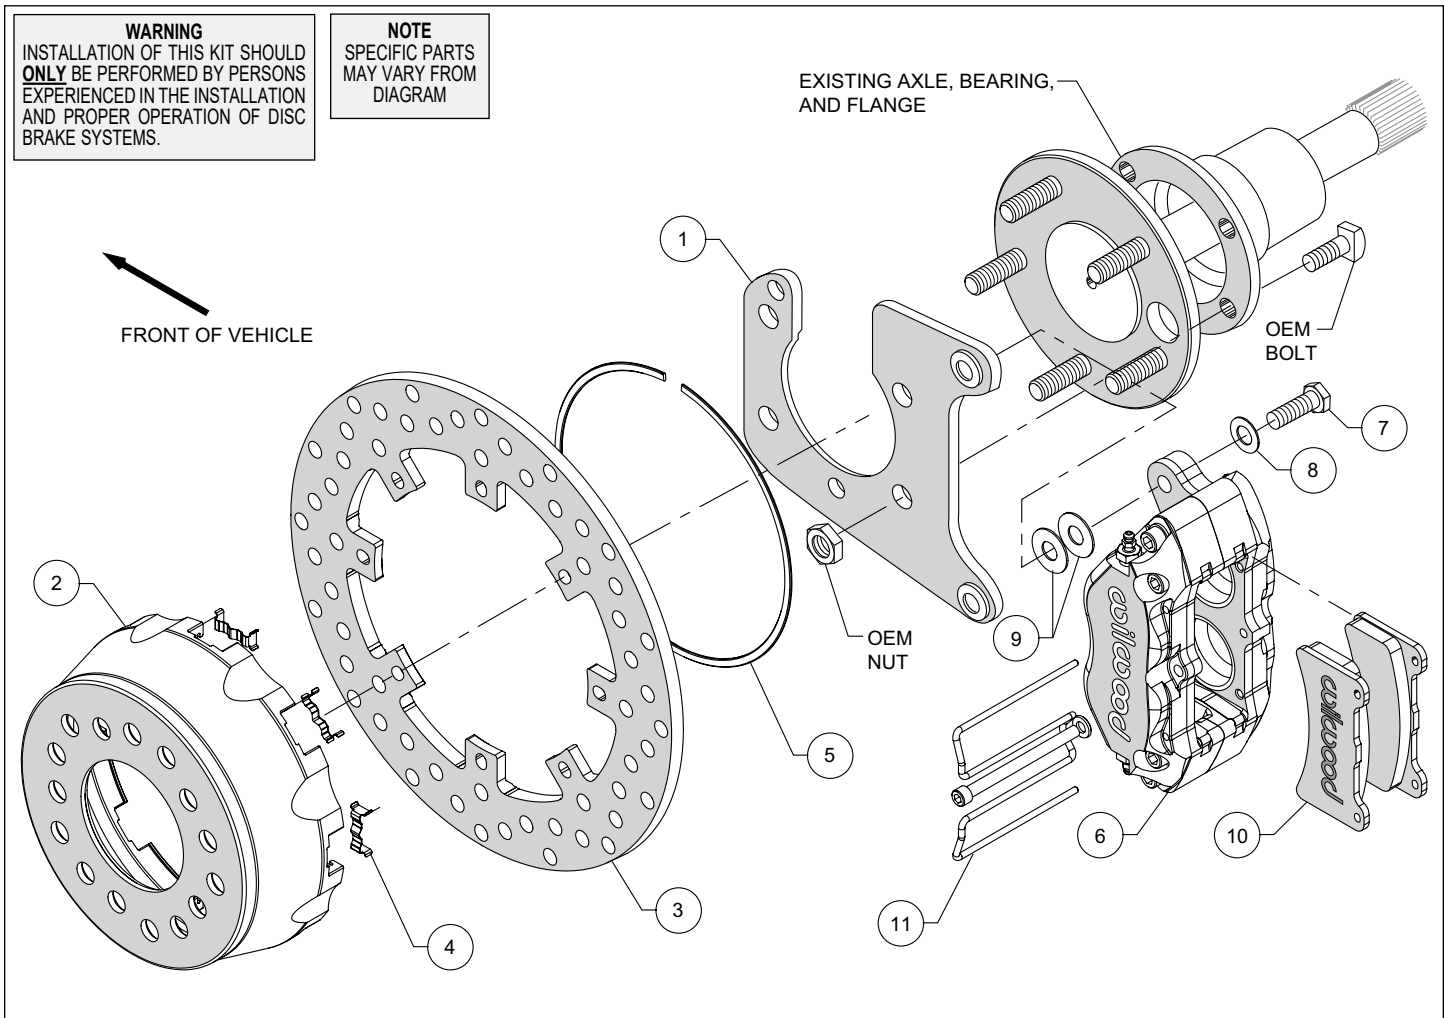
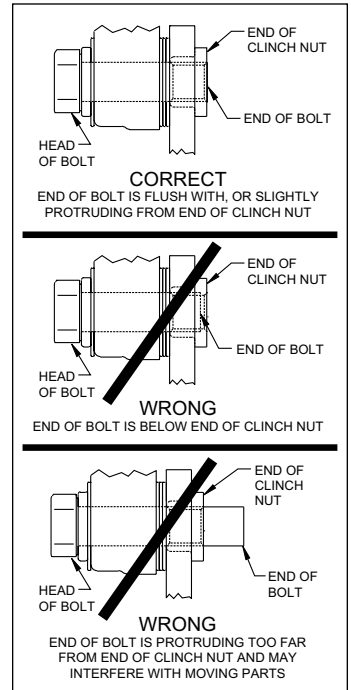
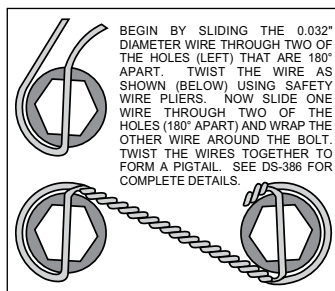

Figure 1. Typical Installation Configuration
Figure 4. Clinch Nut Engagement Diagram
Figure 5. Safety Wire Diagram
Assembly Instructions (numbers in parenthesis refer to the parts list and Figure 1 on the preceding pages): **CAUTION:** All mounting bolts must fully engage clinch nuts. Be sure to check that all bolts are either flush or protruding through flanged side of clinch nut after shimming, Figure 5.
- Install the caliper mounting bracket (1), with the slot for the axle pointing upward, to the housing flange using the OEM bolts and nuts, as shown in Figure 1 and Photo 1. Ensure that the heads of the clinch nuts are facing outboard, Photo 1. Apply red *Loctite*® 271 to the OEM bolt threads and torque to OEM specifications.
- Insert the dynamic mount wear clips (4) into the slots in the hat (2) making sure the tabs snap in place, Photo 2. Orient the rotor (3) as shown in Figure 1 and Photo 3, with the flush mount tab side facing the hat. Attach the rotor to the hat using snap ring (5) by pushing down on the rotor and installing the ring into the groove in the hat, as shown in Photo 4. Ensure that the ring is fully engaged in the groove.
- Align the correct hole pattern in the hat (2) with the axle stud pattern and slide the hat/rotor assembly onto the axle hub. **NOTE:** The hat must fit flush against the axle flange or excessive rotor run out may result. Install three lug nuts (finger tight) to keep the hat/rotor in place while continuing with the installation. **NOTE:** Some OEM and aftermarket axles come with stud sizes larger than 0.50" diameter. Verify stud size, and if necessary, have a qualified machine shop drill the hats to the correct size.
- NOTE:** Please reference the caution statement at the beginning of the assembly instructions. Mount caliper (6) onto the mounting bracket (1) using bolts (8) and washers (7), as shown in Figure 1. Initially place two .035" thick shims (9) on each bolt between the caliper and the bracket, Photo 5. Temporarily tighten the mounting bolts and view the rotor (3) through the top opening of the caliper. The rotor should be centered in the caliper, Photo 6. If not, adjust the caliper by adding or subtracting shims between the bracket and the caliper. Always use the same amount of shims on each of the two mounting bolts. **NOTE:** The end of each bolt must be flush with or slightly protruding from the head of the clinch nut. If necessary, place spare shims between washer and caliper mounting ear to achieve the proper clinch nut engagement, as shown in Figure 4. Once the caliper alignment and clinch nut engagement are correct, remove the bolts one at a time, apply red *Loctite*® 271 to the threads, and torque to 40 ft-lb. For an added measure of security, the bolts may be safety wired using standard 0.032 inch diameter stainless steel safety wire as shown in Figure 5. Please refer to Wilwood's data sheet DS-386 (available at www.wilwood.com/Pdf/DataSheets/ds386.pdf) for complete safety wire installation instructions.